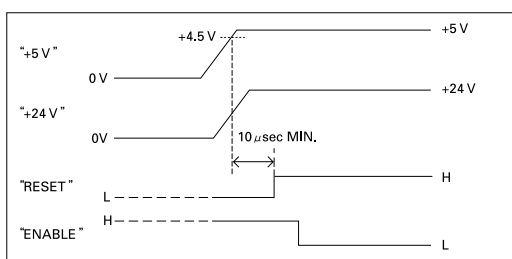

Fig1
- Set "RESET" to High 10μsecs after "+5 V" rises above "+4.5 V", as shown in Fig 1. When turning on the power with "ENABLE" set to Low, set "RESET" to High after "+24 V" rises completely.